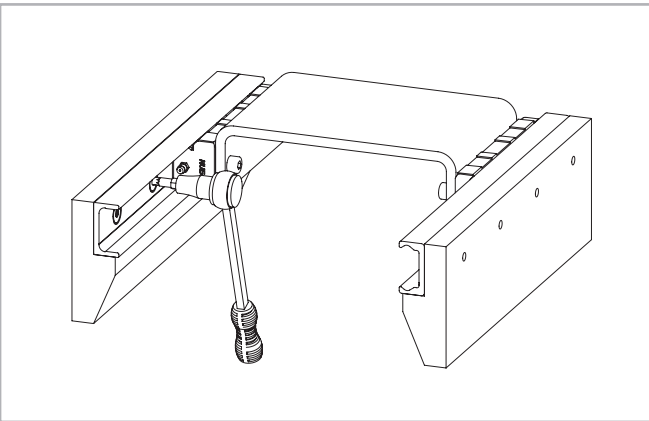

Fig. 113
(5) Tighten the center rail fixing screws to the specified torque (see fig. 113).